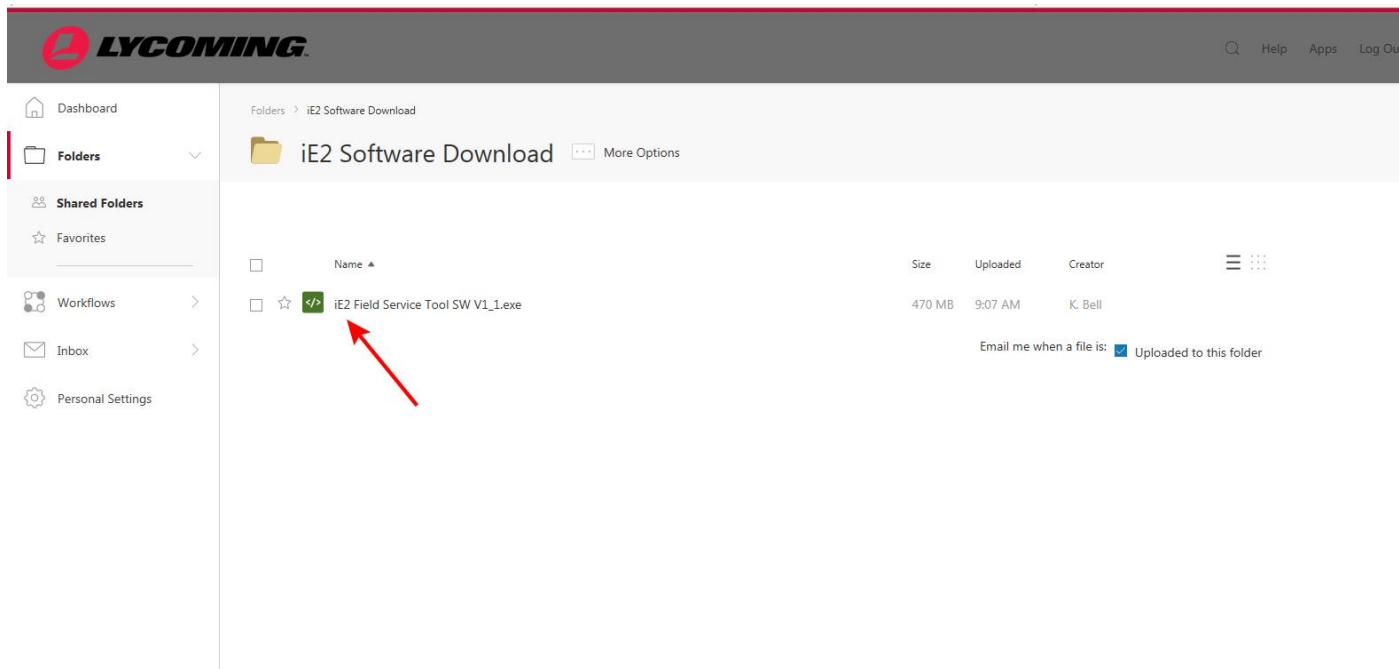

Figure 8
8. You will be transferred to the **iE2 Software Download** page (Figure 8). Double-click on the **iE2 Field Service Tool SW** icon.